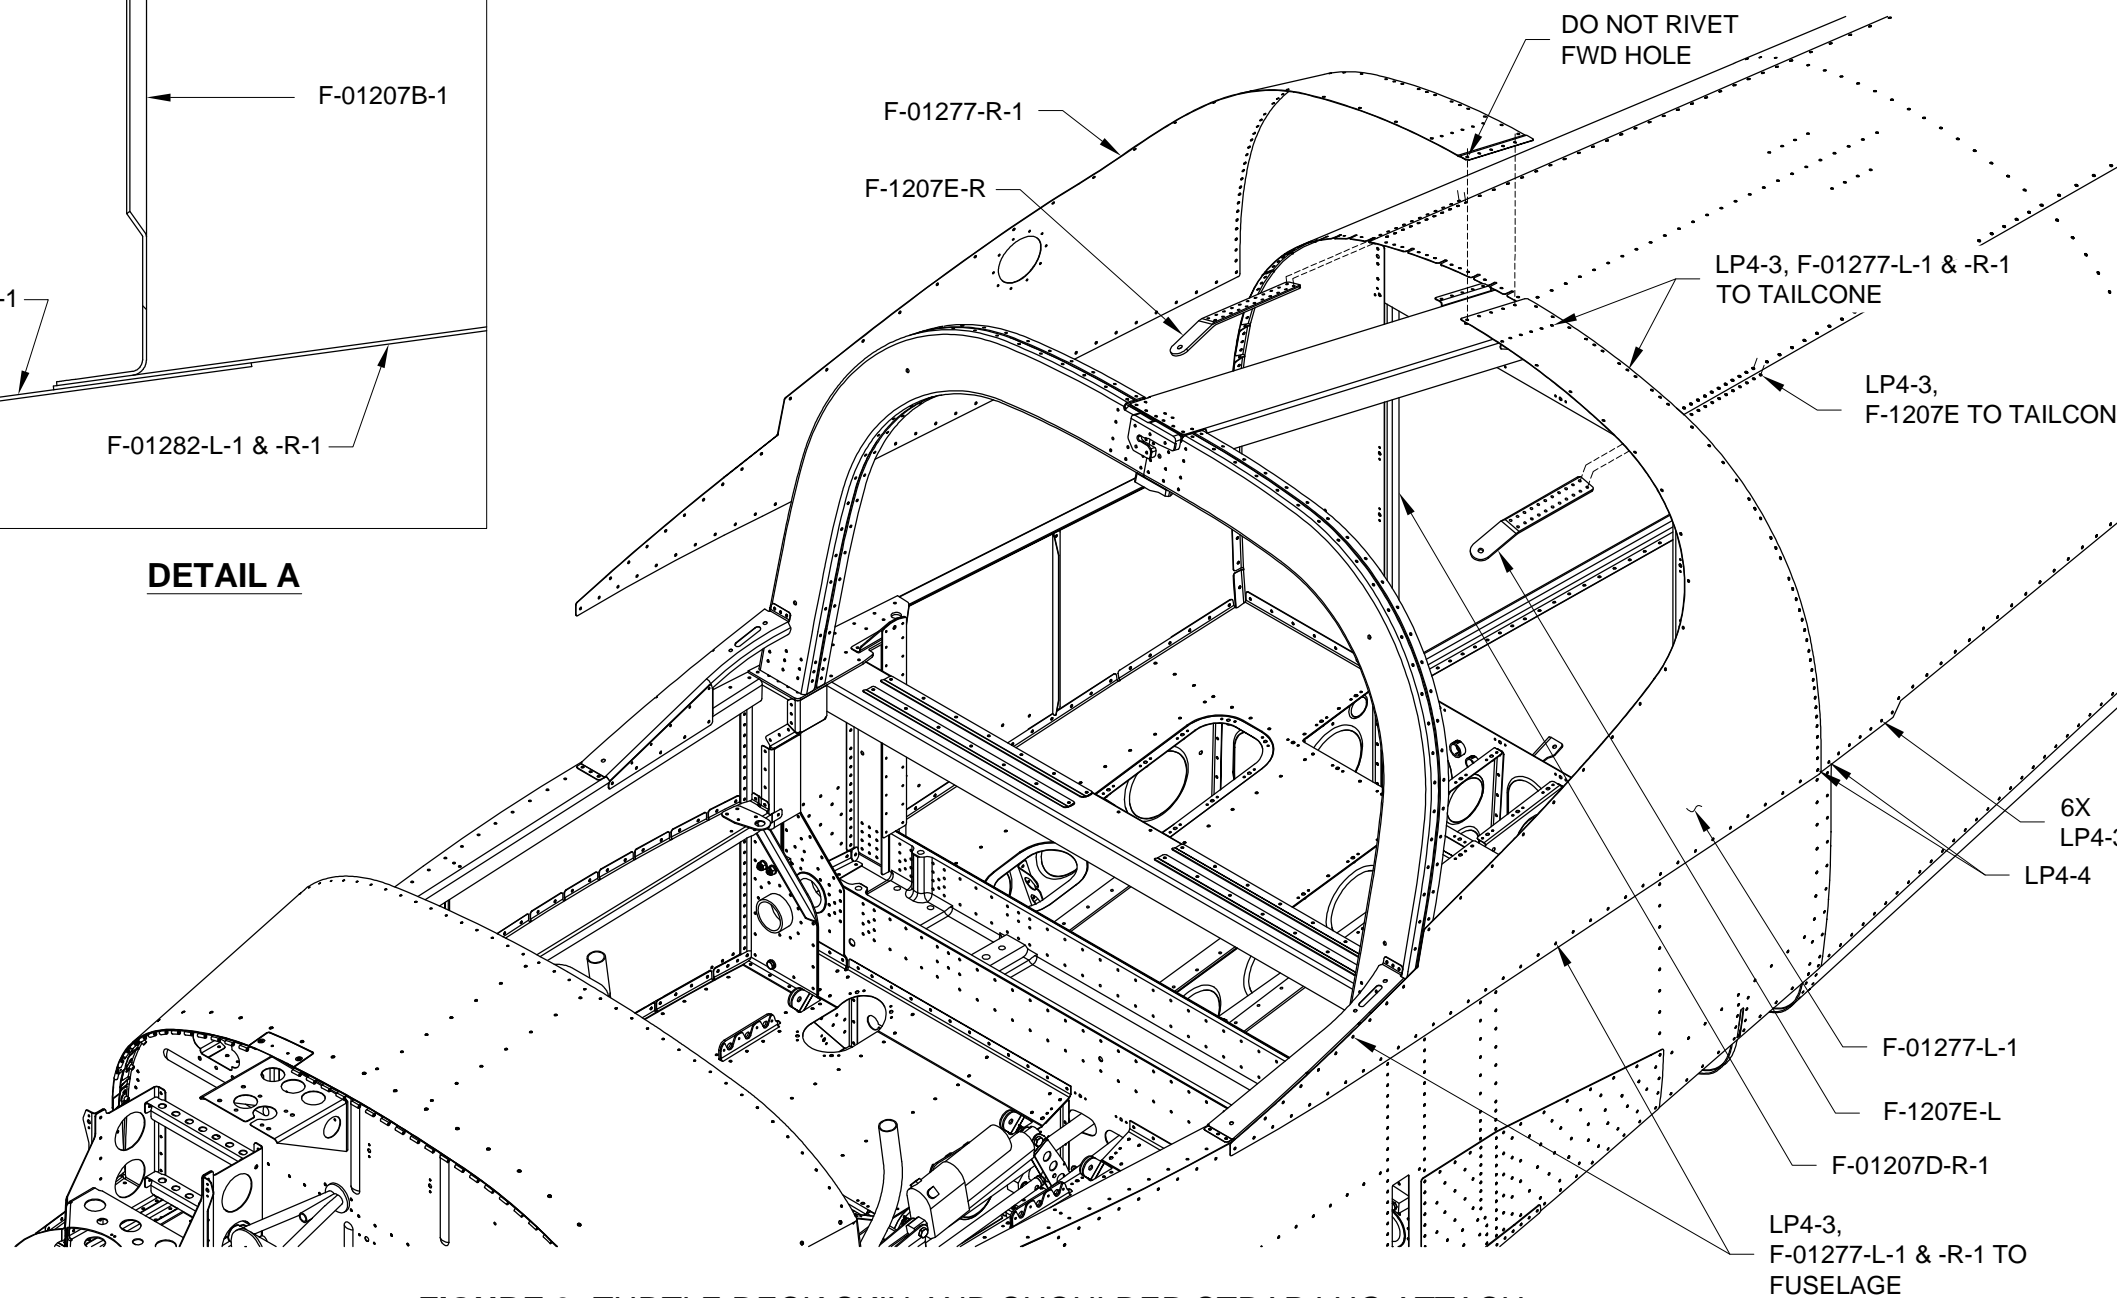

FIGURE 2: TURTLE DECK SKIN AND SHOULDER STRAP LUG ATTACH
Step 2: Cleco the F-01273-L-1 in place as shown in Figure 1. It underlaps the F-01270-L-1, F-01276-1, and F-1280-L, and overlaps the F-1281-L as shown in Figure 2. Repeat and mirror for the F-01273-R-1.